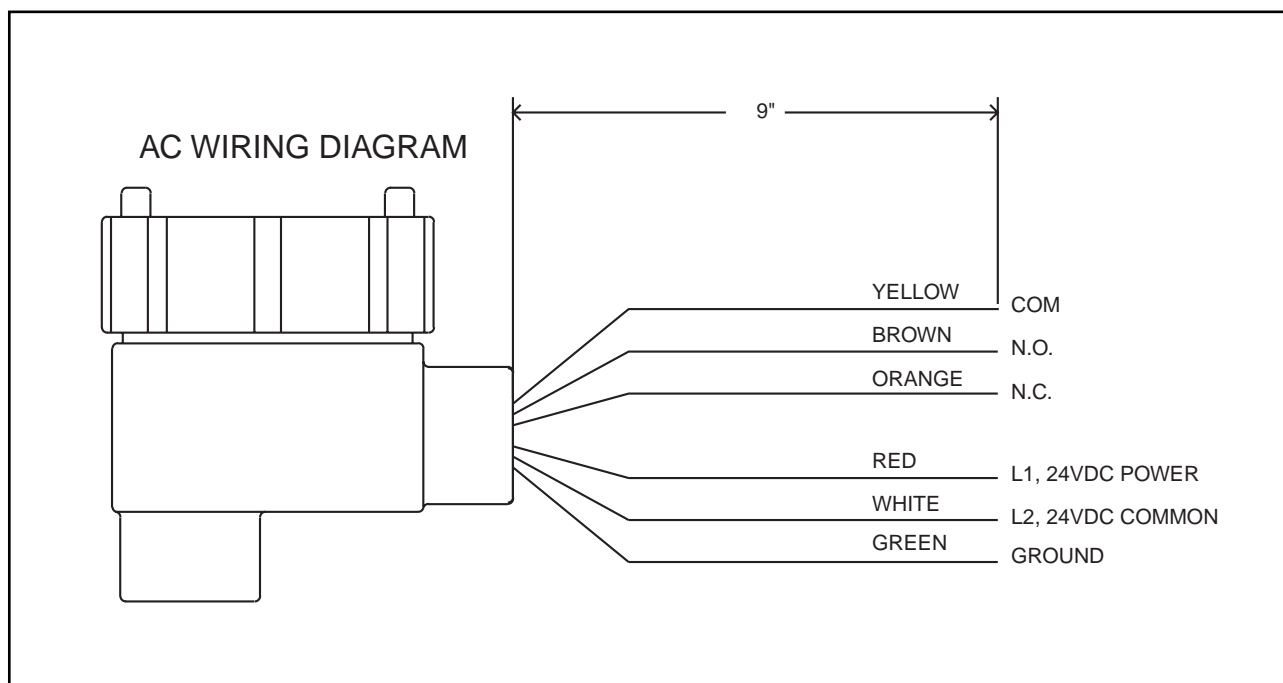
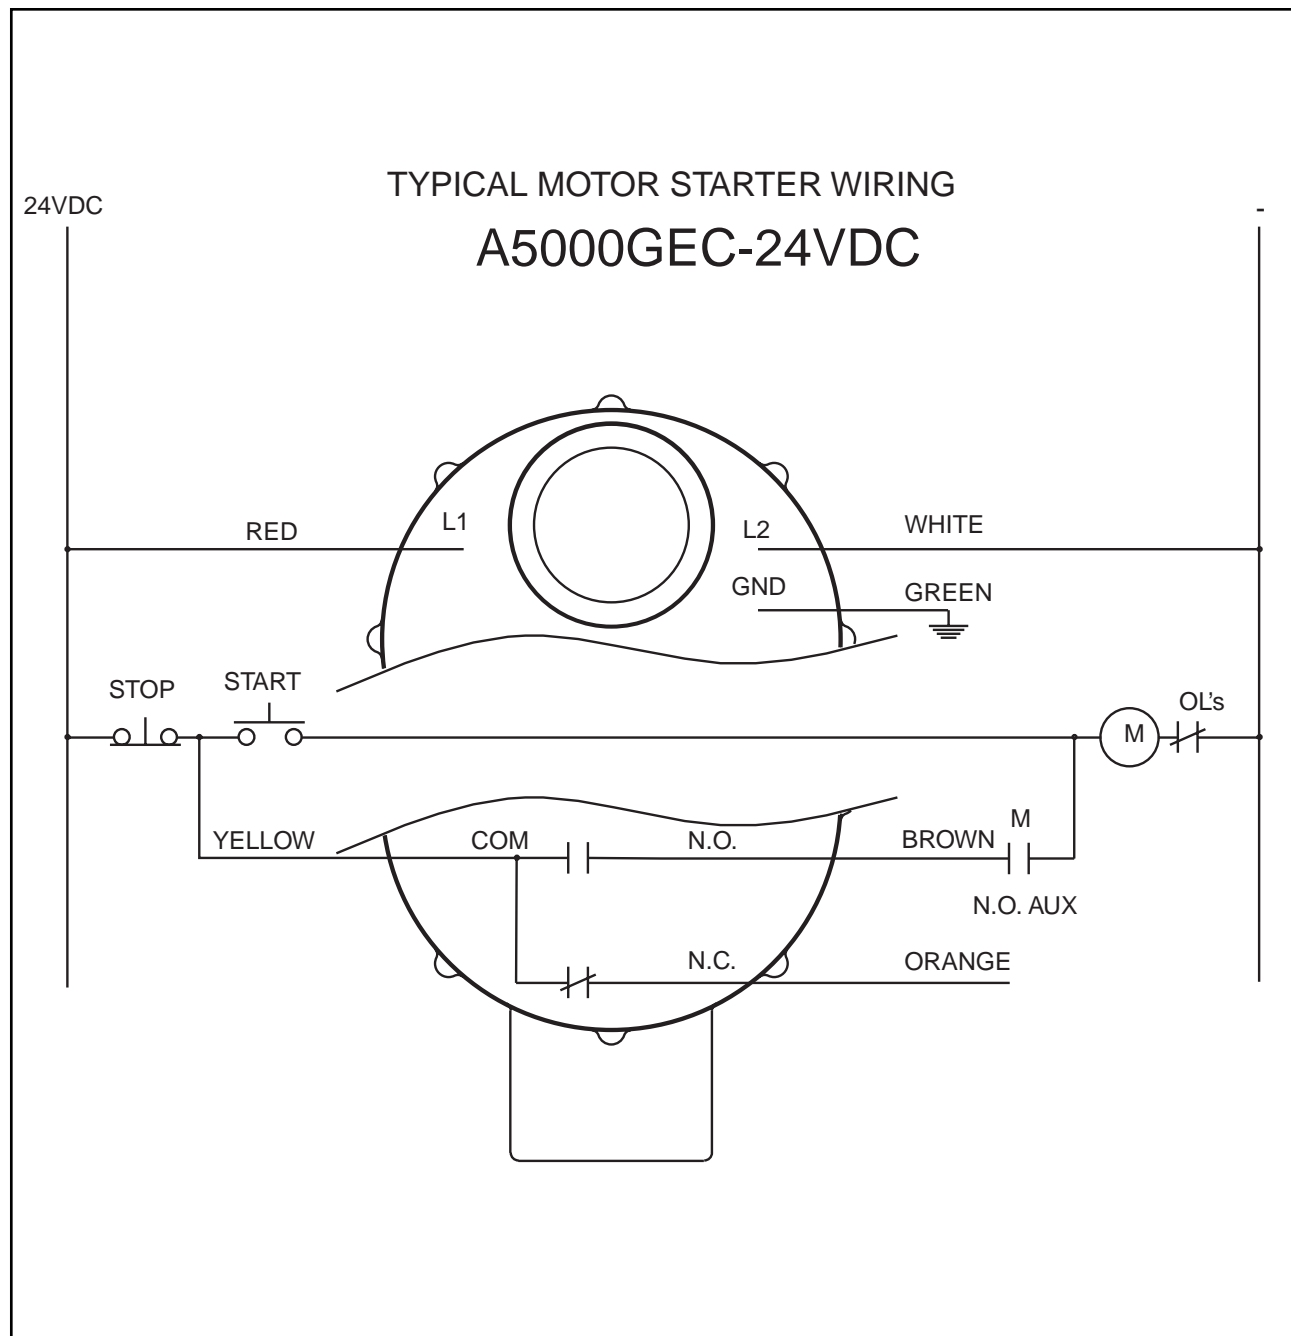

Figure 3
Figure 4
5.1 Power connections and relay connections to the A5000GEC-24VDC Zero Speed Switch are shown on figure 3, page 4. Also, figure 4 & 5, page 5 & 6 show typical wiring diagrams.